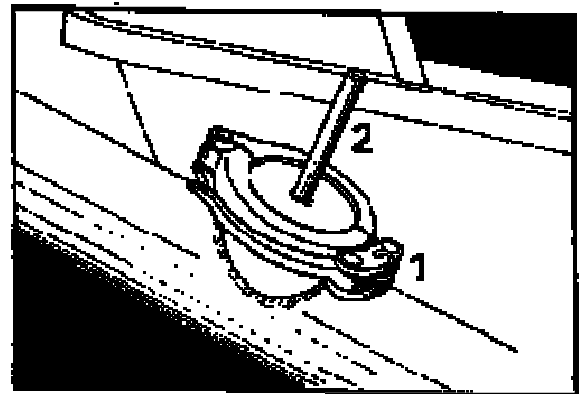

Fig.: 6
- A delivery tube with cleaning cover 2 (Fig.: 6) is available as special equipment.